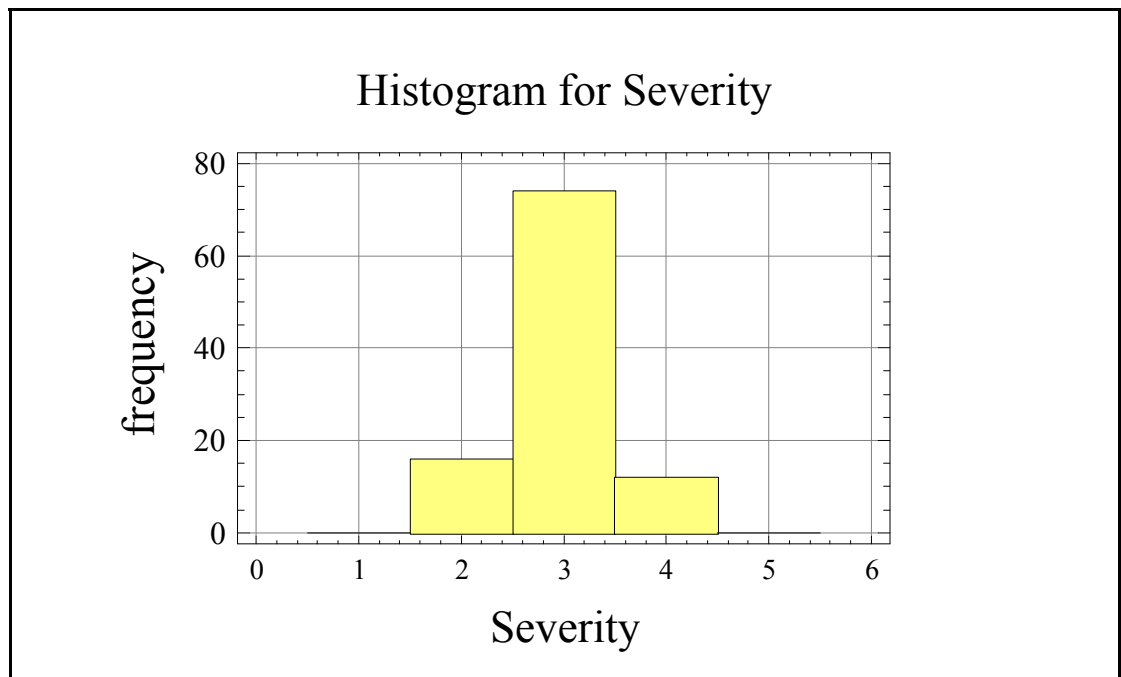

Figure 2 Severity of Project Management Undesirable Effects Occurring
- b. **Figure 2** shows the frequency distribution for the severity scores of the various Project Management Undesireable Effects (PMUE's). This defines how badly that PMUE disturbs the normal PM system, the deliverables, and the expectations of the various stakeholders (ie. customers, employees, suppliers, etc.) The mode (most frequently occurring score) is a score of "3" which is *Significant negative effects*.